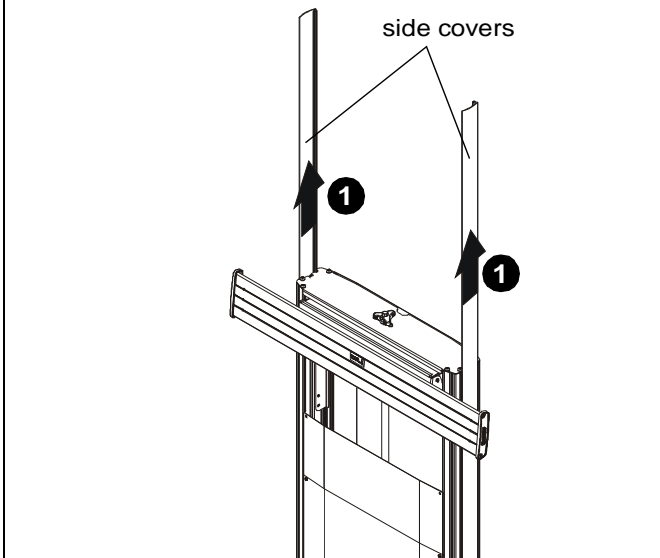

Figure 1
1. Remove side covers from cart/stand by sliding them up the channel. (See Figure 1)